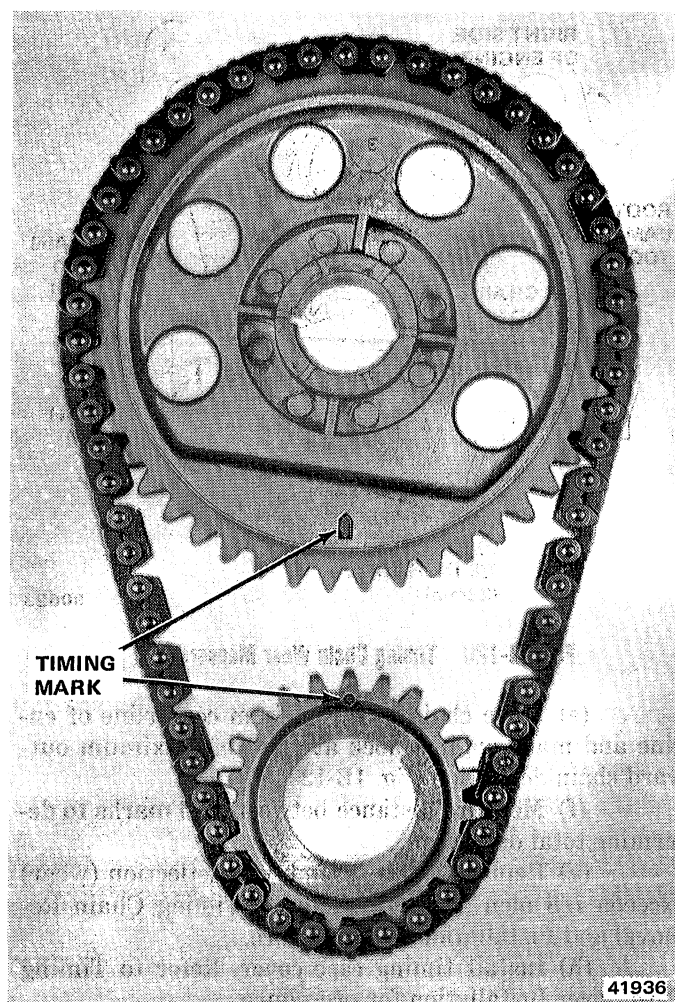

Fig. 1B-121 Timing Chain and Sprocket Alignment
- (1) Assemble timing chain, crankshaft sprocket and camshaft sprocket with timing marks positioned as depicted in figure 1B-121.
- (2) Install chain and sprocket assembly on crankshaft and camshaft.